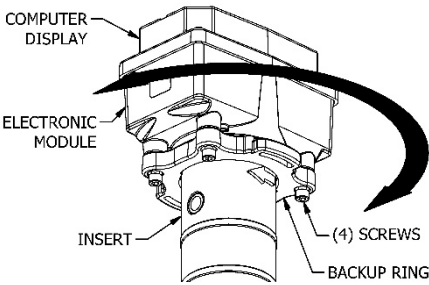

Figure C4
All FLOMEC ultrasonic inserts are designed to measure flow in only one direction. The direction is indicated by the arrow on the insert. If the computer display is not oriented as desired for your installation, it can be rotated **by rotating the electronic module**. (See Figure C4)
NOTE: To rotate the computer display, loosen the (4) screws retaining the backup ring against the clamping flange of the insert. (See Figures C4 & C4A)